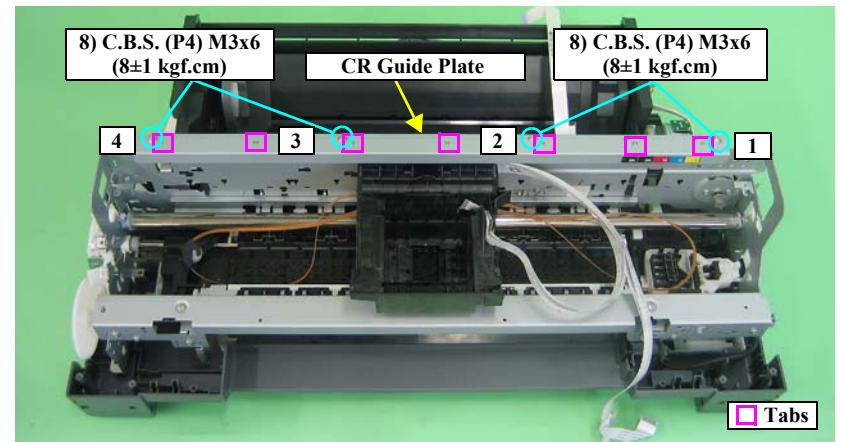

Figure 3-68. Removing the CR Guide Plate
- Align the positioning holes on the CR Guide Plate with the seven tabs on the Main Frame. See Figure 3-68 \(p.67\)
- Tighten the screws in the order shown in Figure 3-68.